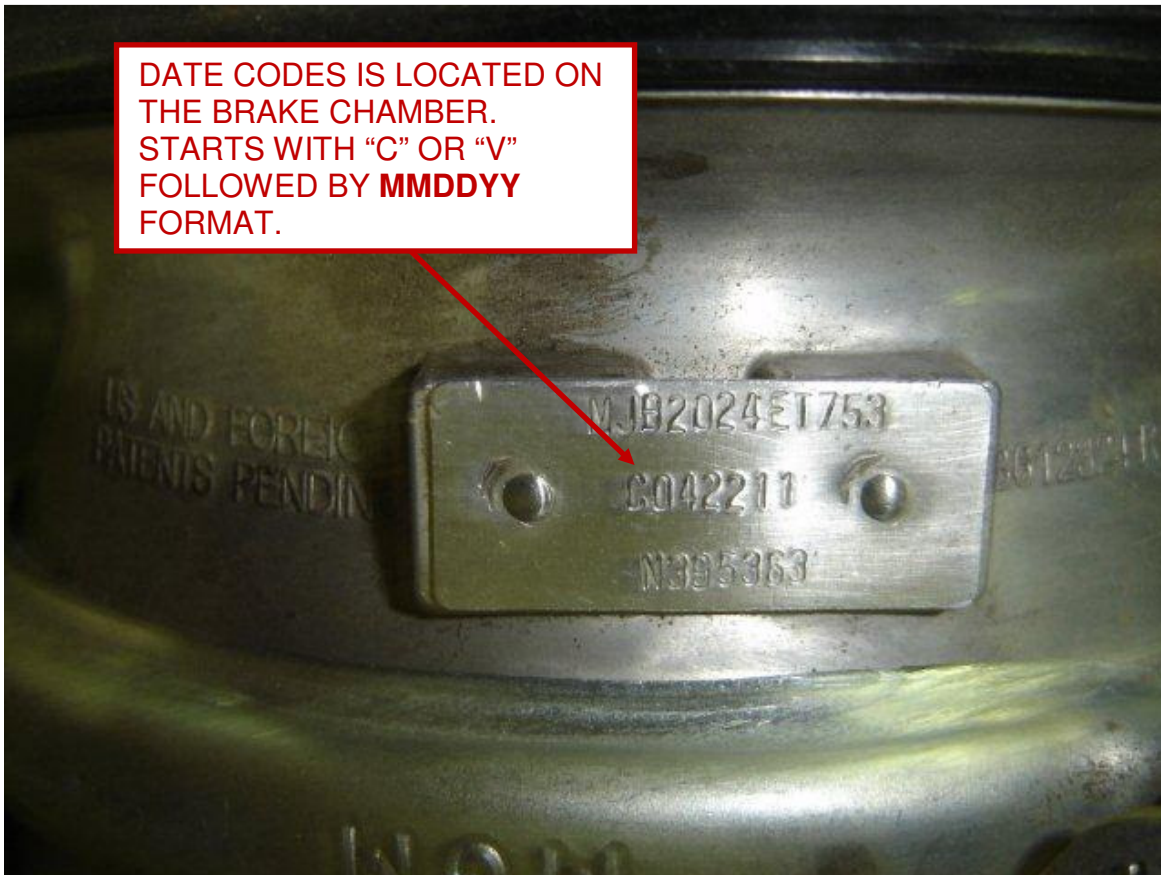

FIGURE 2: BRAKE CHAMBER DATE CODES
4. Inspect date codes for both curb side and street side brake chambers. Use Figure 2 as a reference on where to find and read date codes.